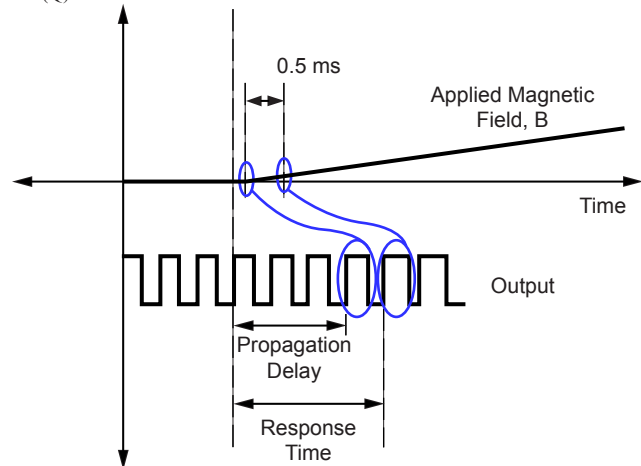

Figure 2. Definitions of Propagation Delay and Response Time
**Propagation Delay** Traveling time of signal from input Hall plate to output stage of device. (See figure 2.)
**Response Time** The time interval between a) when the applied magnetic field reaches 90% of its final value, and b) when the sensor IC reaches 90% of its output corresponding to the applied magnetic field. (See figure 2.)